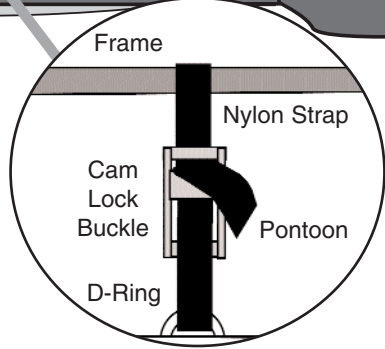

Figure 6
2. Attach each Pontoon to frame using (8) Cam Lock Straps. Slip each strap through D-Ring on Pontoon, around frame and pull tight through Cam Lock Buckle. **NOTE:** Be sure the straps are pulled tight through the Cam Lock Buckles (see figure 6).